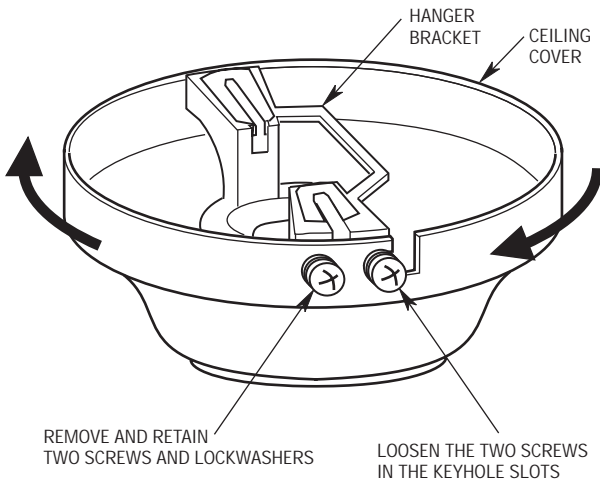

Figure 1
1. Loosen the two screws in the keyhole slots of the ceiling cover. Remove and retain the other two screws and lockwashers (Figure 1).